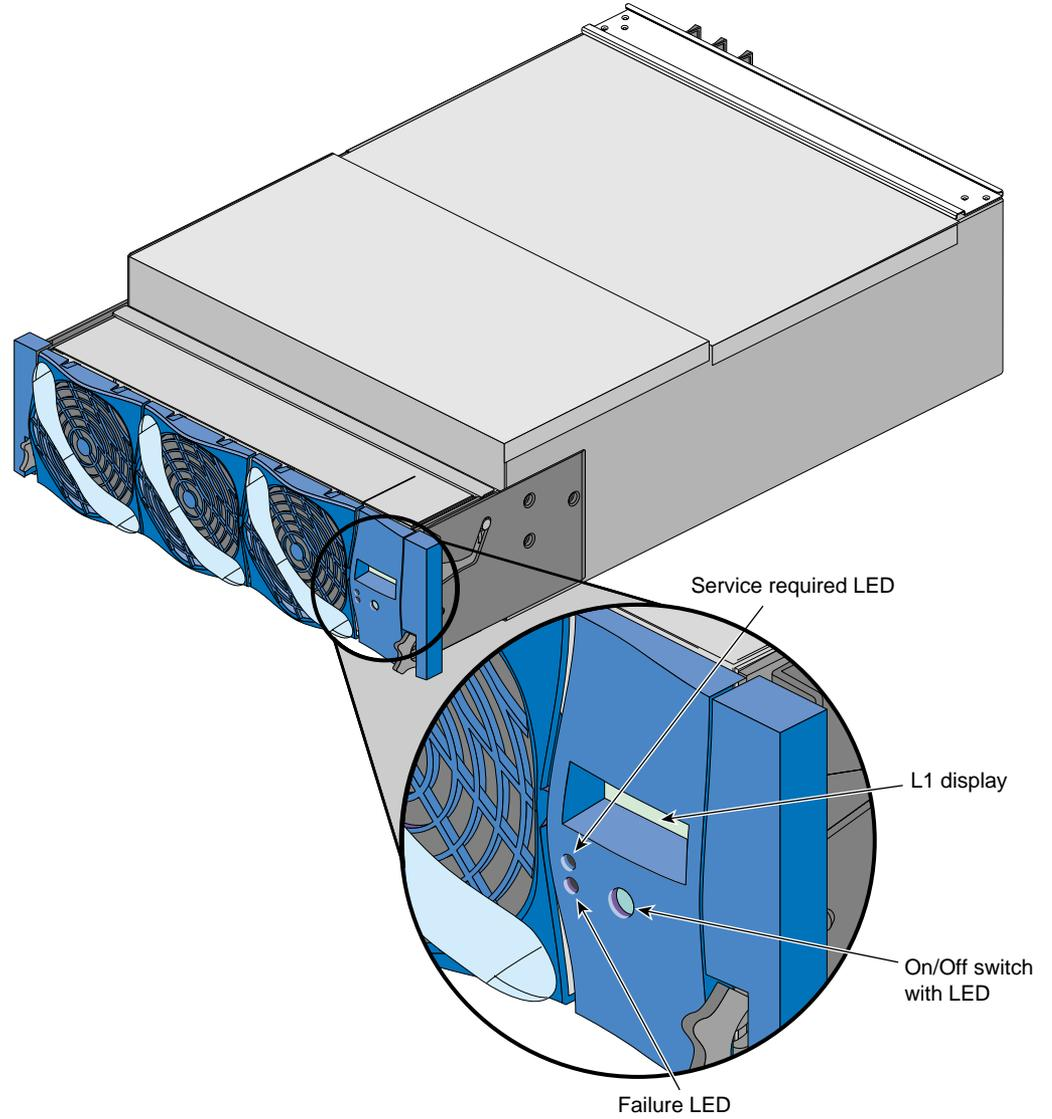

Figure 2-8 On/Off Switch with LED at Front of Module
3. Press the On/Off switch that is located on the front of the module (refer to Figure 2-8). The 48 Vdc LED (rear of module) and the On/Off LED (front of module) illuminate when the module is powered on.
1. Press the On/Off switch that is located on the front of the module (refer to Figure 2-8). The 48 Vdc and On/Off LEDs should not be illuminated when the module is powered off.